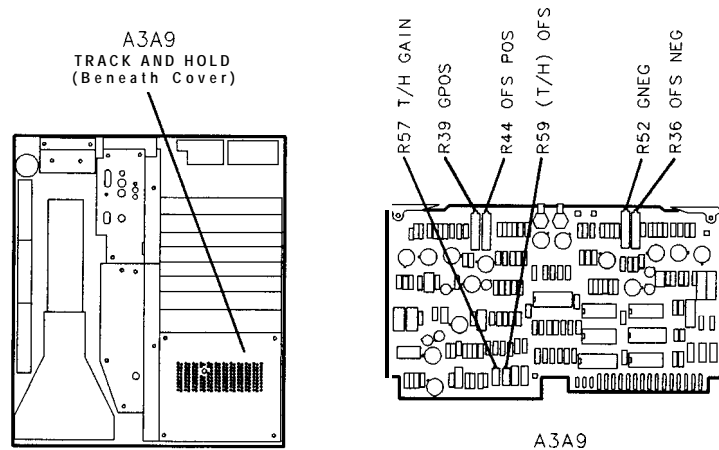

Figure 3-103. Location of Track and Hold Adjustments
9. Adjust A3A9R59 (T/H) OFS until MARKER A level indication as indicated by CRT annotation flickers back and forth between .00 and .10 dB. See Figure 3-103 for location of adjustment.